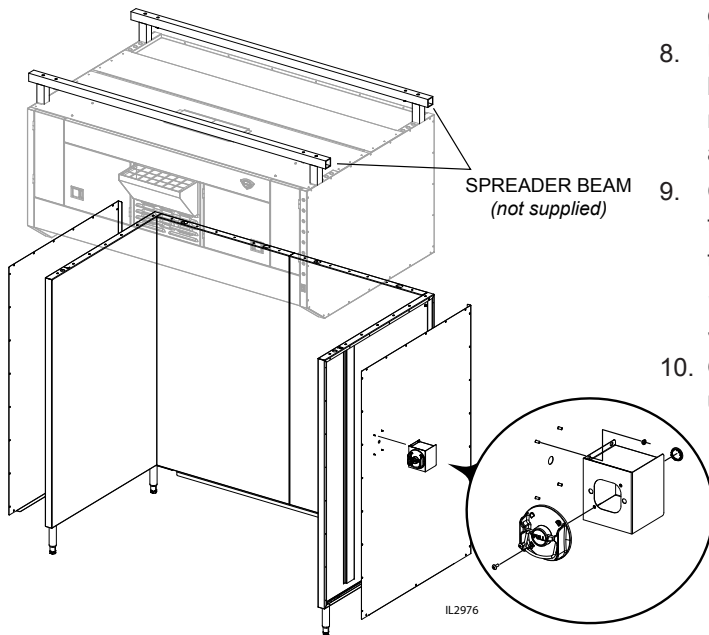

Figure 4
8. Use a spreader beam (not supplied) on the hood, lower the hood on top of the base (Fig 4) so the mounting holes line up. Secure with bolt, washer and nut (7 places each side).